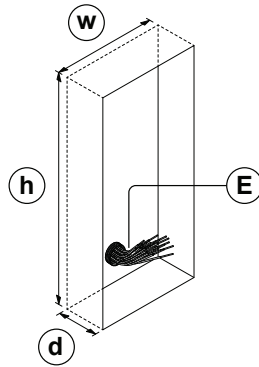

Fig. 59
2. Using the flush box (C) and the hole dimensions (**w=120mm x h=263.2mm x d=46mm**), as shown in **Fig.59**, use appropriate tools to cut out the recommended hole size in the wall (where required it may be necessary to wear the appropriate clothing, e.g. protective gloves and eye protection, when doing this). Remember to allow room for the connecting cables (E) (**Fig.59**);